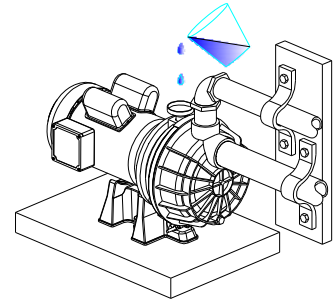

Figure 7
3. Fill pump and suction pipe with water (See figure 7)